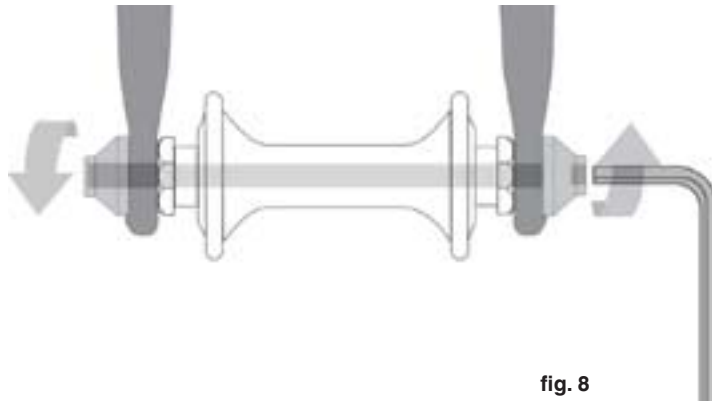

fig. 8
- A hollow axle with a shaft (“skewer”) running through it which has a nut on one end and a fitting for a hex key, lock lever or other tightening device on the other (through bolt, fig. 8)